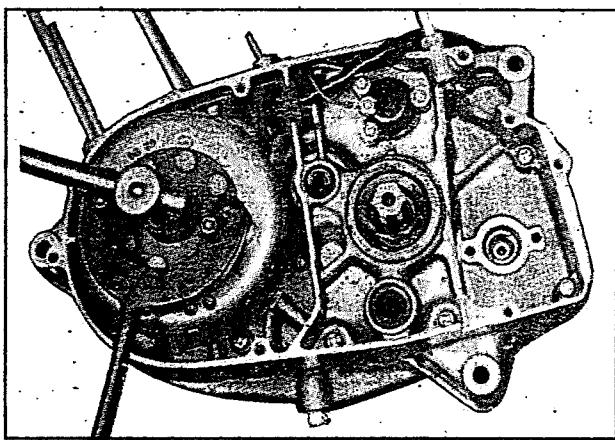

Fig 3.33
- Loosen the rotor nut by using special tool (fig 3.33)